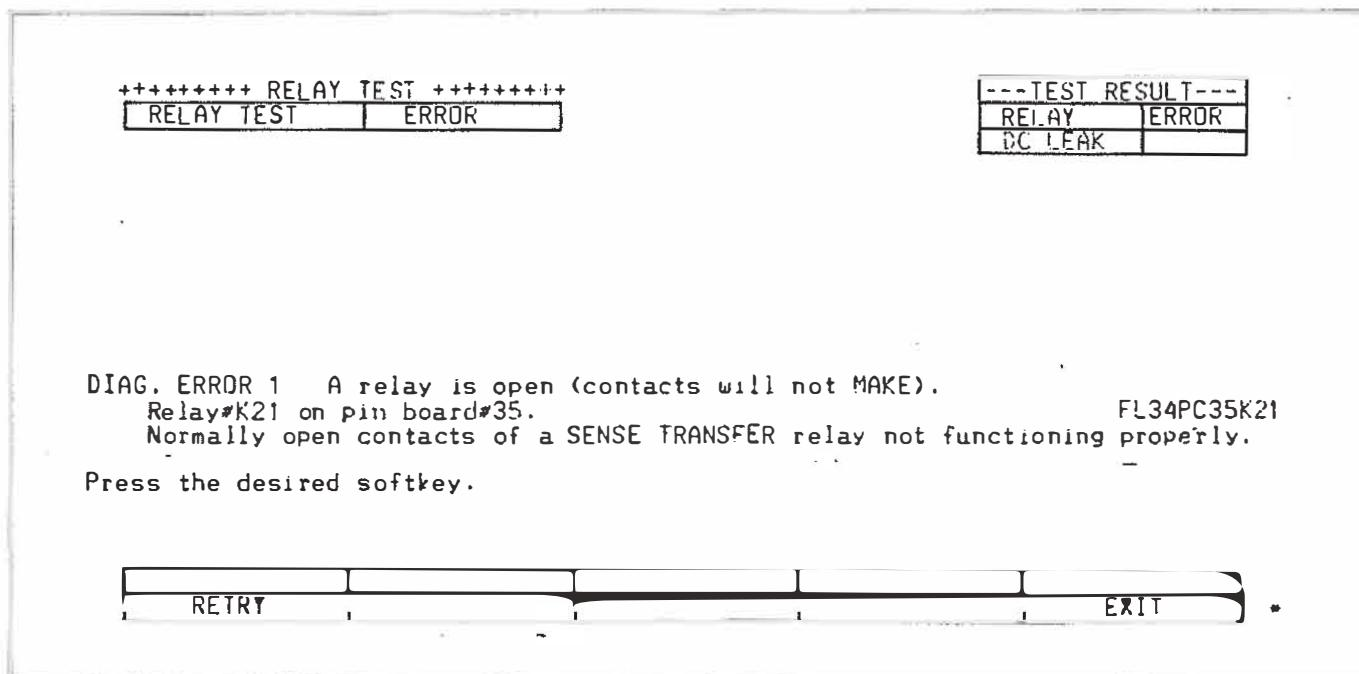

Figure 4-4. Relay Test Failure
- (3) If a faulty relay is detected, an error message, along with the pin board number, relay number, and a brief description of the fault, will appear on the computer's screen, as shown in Figure 4-4. the Relay Test will stop when a faulty relay is detected.